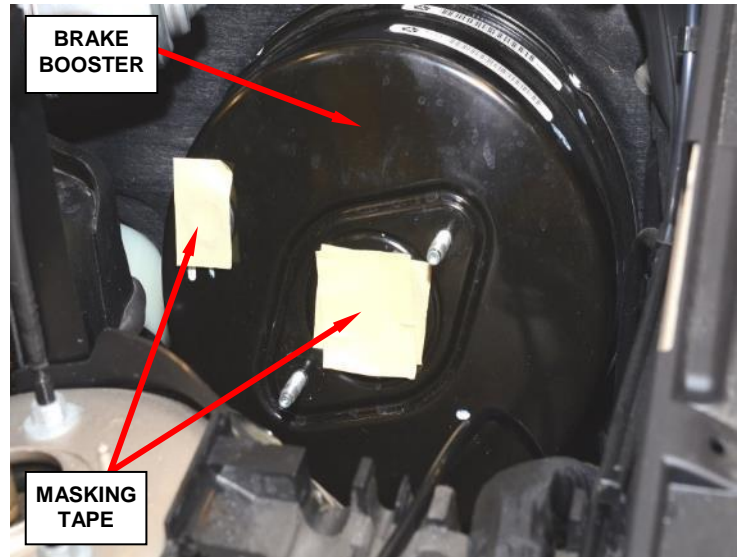

Figure 22 – Cover Brake Booster Openings
- 14. Cover the brake booster openings with masking tape to prevent debris from entering the brake booster (Figure 22).